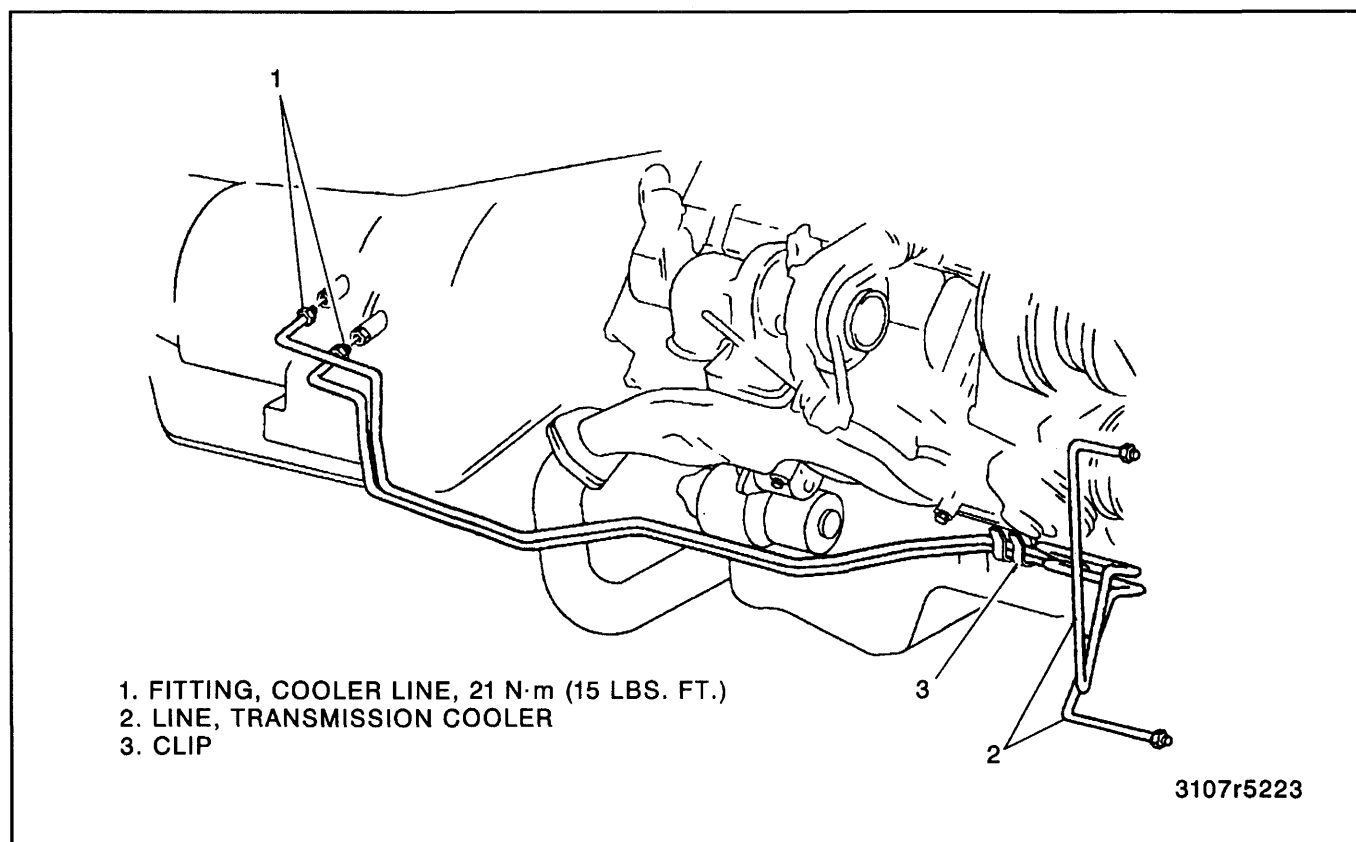

Figure 22—Transmission Cooler Lines
12. Cooler lines (figure 22).
7. Cooler lines (figure 22).